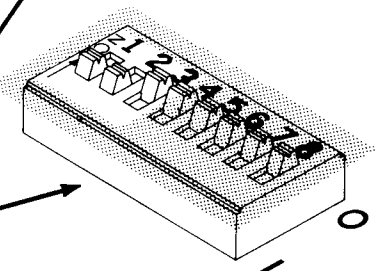

Figure 2-4. Device Address Default Switch Settings
Any device address from 0 through 7 may be set with these three switch segments. To change or verify the factory setting, orient the circuit board as shown in figure 2-4 and locate switch segments 1 through 3. Next, identify the "0" and "1" switch positions on the circuit board. You may verify that device address "06" is properly set by comparing the actual positions of switch segments 1 through 3 with those illustrated. They should be the same.
S2(1), S2(2), S2(3)	Determines data port configuration (refer to table 2-2 and figure 2-4). Device addresses 00 through 07 only may be configured by the switches. Addresses 0 through 15 may be selected by writing to Register 5.